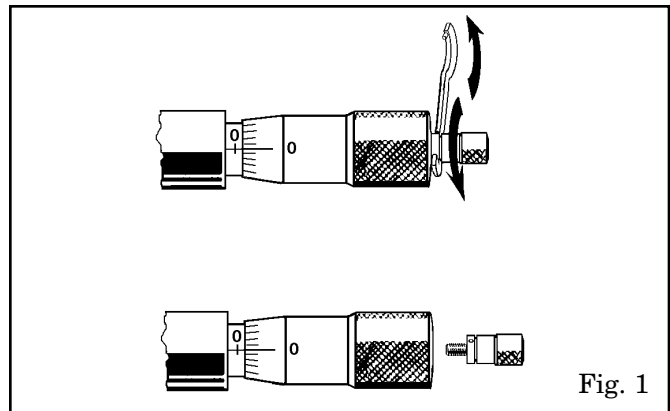

Fig. 1
1. With wrench provided, remove knurled cap on end of thimble and loosen set screw. See Fig. 1.